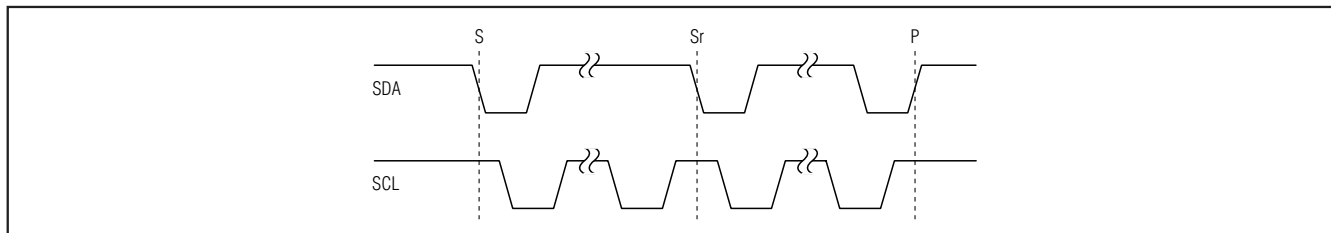

Figure 7. START and STOP Conditions
The master initiates a transmission with a START condition (S), a high-to-low transition on SDA with SCL high. The master terminates a transmission with a STOP condition (P), a low-to-high transition on SDA while SCL is high (Figure 7). The STOP condition frees the bus and places all devices in F/S mode (see the *Bus Timing* section). Use a repeated START condition (S_r) in place